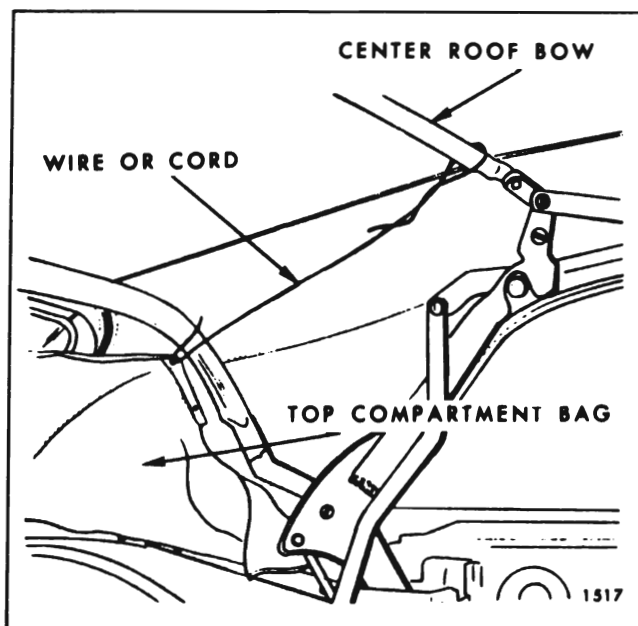

Fig. 13-5 — Top Compartment Bag Tied to Center Bow
17. Detach folding top compartment bag from rear seat back panel, thus exposing rear quarter and rear trim stick attaching bolts. Forward end of top compartment bag may be tied or wired to center roof bow to provide ready access to attaching bolts (Fig. 13-5).